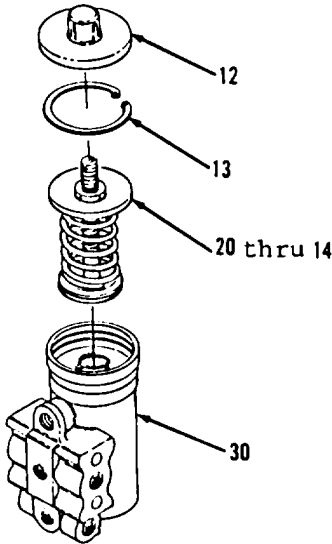

Figure 6-59.
- 17. Install items 20 thru 14 as an assembly in air compressor governor (30, Figure 6-59).
- 18. Install retaining ring (13).
- 19. Install cover (12) on air compressor governor (30) tightly after checks have been completed.